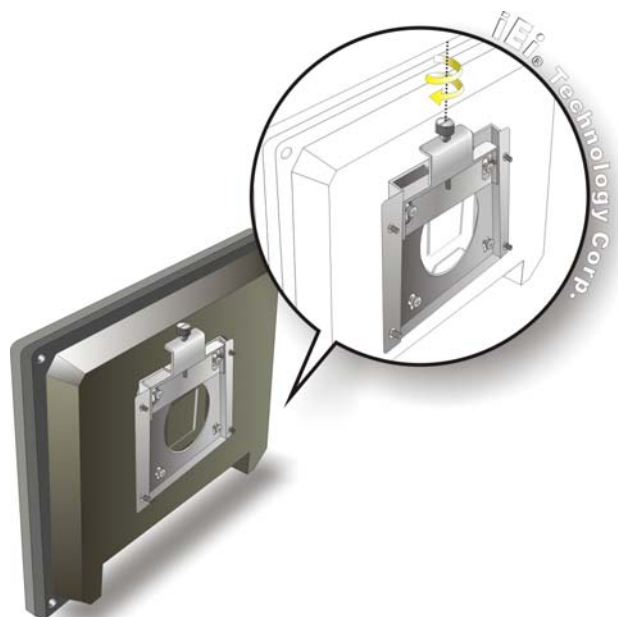

Figure 3-16: Secure the Panel PC
Step 9: Secure the panel PC by fastening the retention screw of the wall-mounting bracket. (**Figure 3-16**).